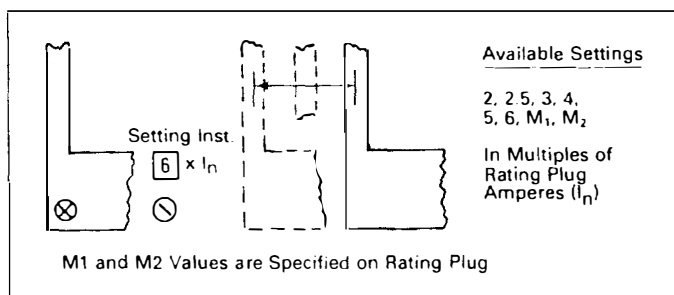

Fig. 4.5 Instantaneous Current Settings
There are eight (8) available Instantaneous Current Settings, as illustrated in Fig. 4.5. Six settings are in the range from 2 to 6 times ( $I_n$ ) the rating plug value, and the